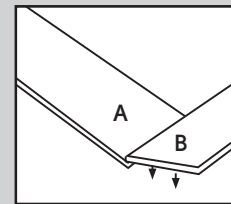

Fig. 4a
4. Take one "A" plank and one "B" plank and place as shown below. Tilt the leading edge of plank B, slide the joint together and lay flat (Fig 4a & 4b).